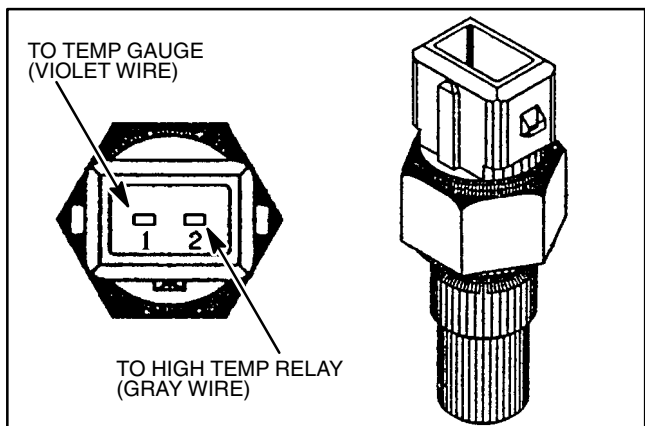

Figure 37
3. Check continuity of the switch component with a multimeter (ohms setting). Check continuity between post 2 and the sender casing. The switch is normally open and should close between 226 to 234°F (108 to 112°C) (Fig. 37).
6. Check resistance of the thermistor component with a multimeter. Check resistance between post 1 and the sender casing (Fig. 37).